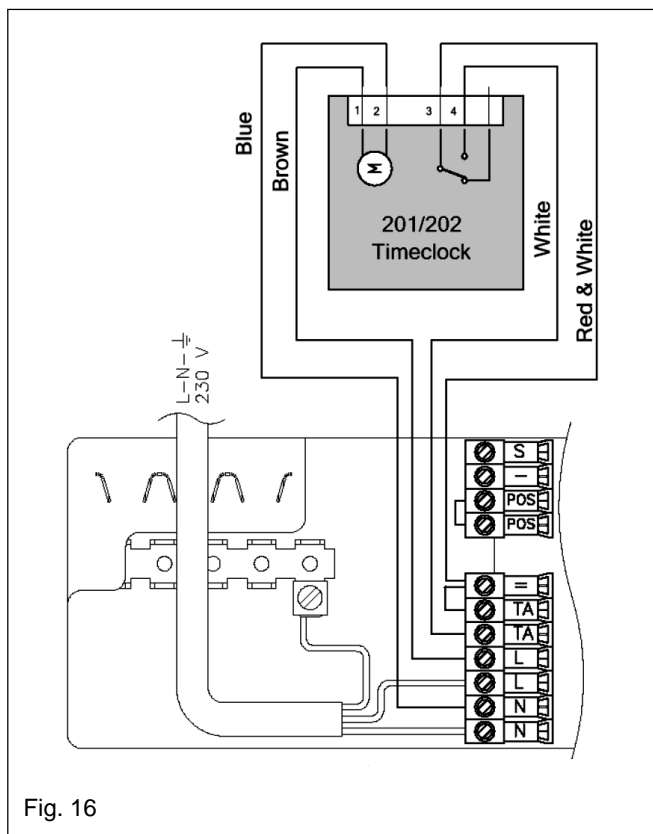

Fig. 16
4.7.3 CONNECTING THE MAINS (230V) INPUT (see fig. 16)
Connect the supply cable wires (LIVE, and NEUTRAL) to their corresponding terminals on the appliance terminal block. Connect the EARTH wire to the EARTH block (see fig. 16) ensuring that it's left slightly longer than the others, this will prevent strain on the EARTH wire should the cable become taut.
- using the clock wiring harness supplied in the accessory pack, connect the 4-wires to the clock as shown in fig 16.